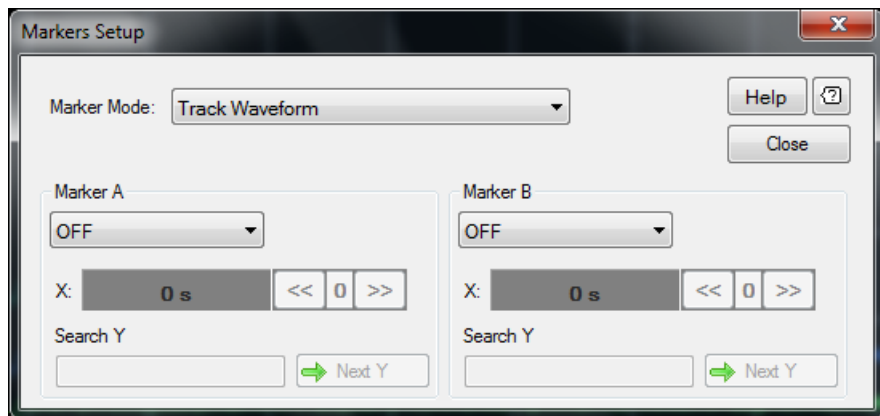

Figure 2-114 Markers dialog
- 3 The Markers dialog is displayed on the graphical interface as shown in Figure 2-114.